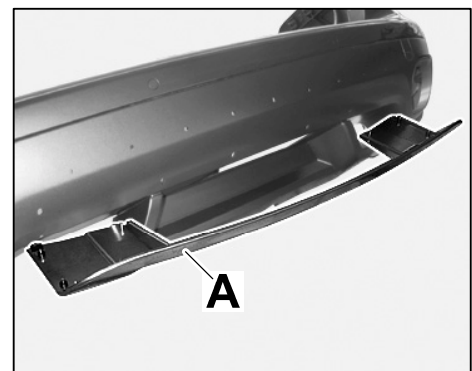

Figure 8
- 2.2 Fit stainless steel rear trim ⇒ *Figure 8-A*- on the rear apron. When doing so, make sure that the retaining pivots of the stainless steel rear trim are inserted into the round holes and slots on the rear apron.